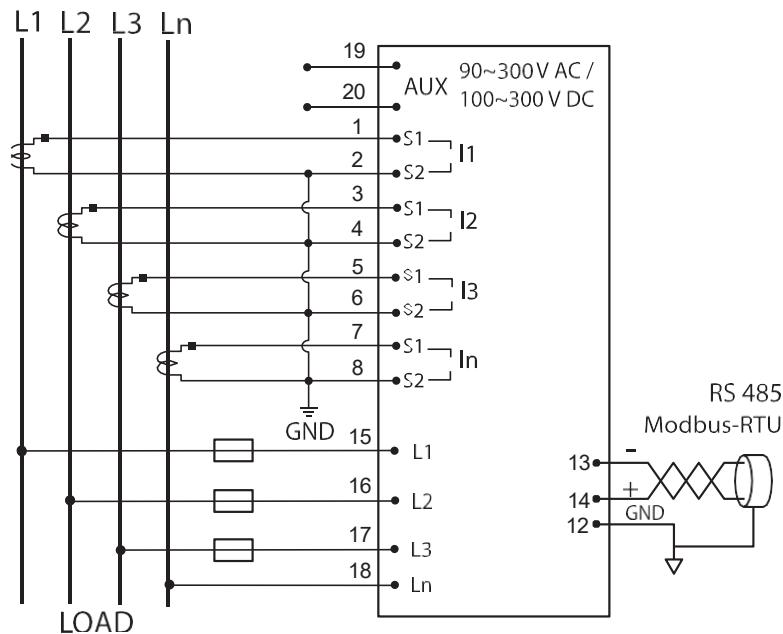

Figure 3: 3 Phase 4-Wire System with 4CTs connection, direct voltage input.
- Connect the metering voltage input, current input, communication and auxiliary according to the wiring schemes shown in Section 2.3, Figure 3 to 6 on the next page.